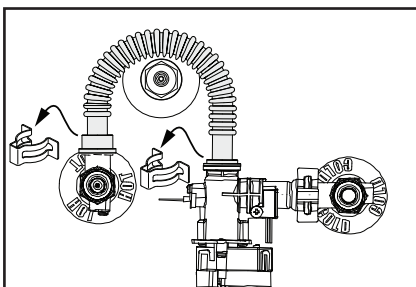

Figure 31 - Flex hose spring clips removal.
3 With the shroud removed, gently remove the spring clips (2) securing the flex hose to the smart valve hot t-nipple. Place components safely to the side. **NOTICE:** DO NOT bend the flex hose. Take note of the orientation in which the flex hose is installed to the smart valve. The flex hose will need to be reinstalled correctly in order to function properly. See Figure 31.